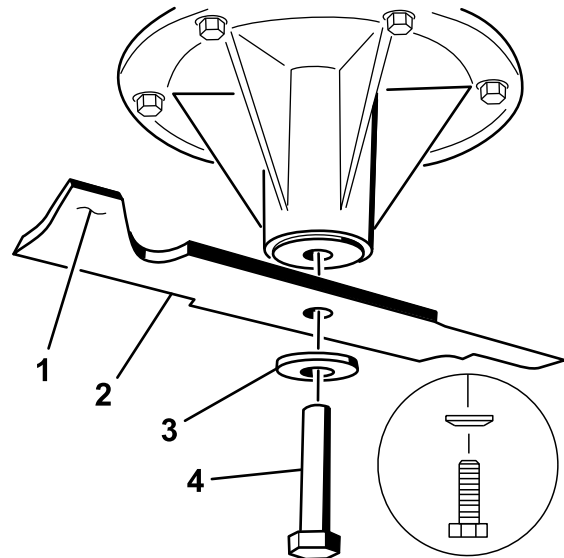

Figure 100
2. Remove the blade bolt, curved washer, and blade from the spindle shaft (Figure 100).
3. If the blade is not balanced, file some metal off the end of the sail area only (Figure 100).